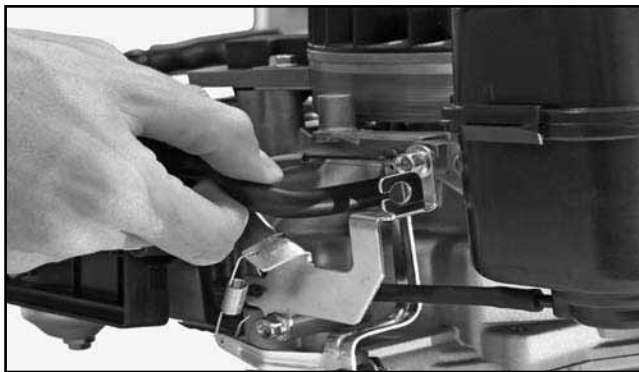

Figure 4-2. Breather Hose.
3. Disconnect the breather hose from the crankcase. See Figure 4-2.
4. Reconnect the breather hose. See Figure 4-2.